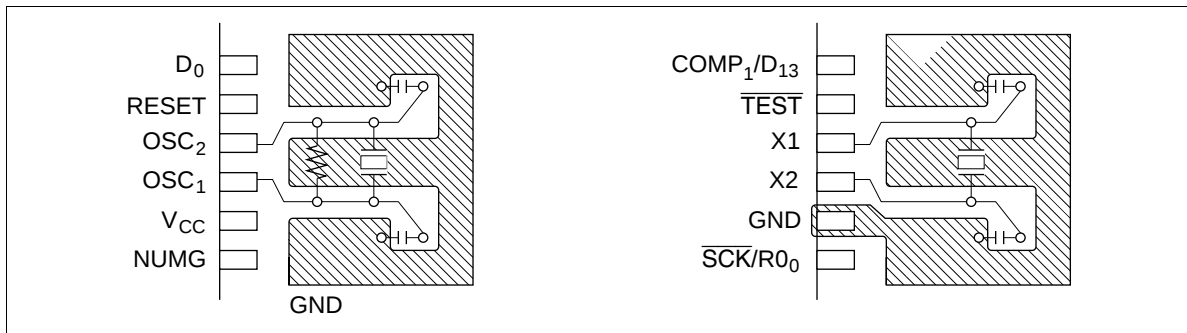

Figure 21 Layout of Crystal and Ceramic Oscillators
2. Wiring among OSC₁ and OSC₂ or X1 and X2, and other elements should be as short as possible, and should not cross other wires. Refer to figure 21.